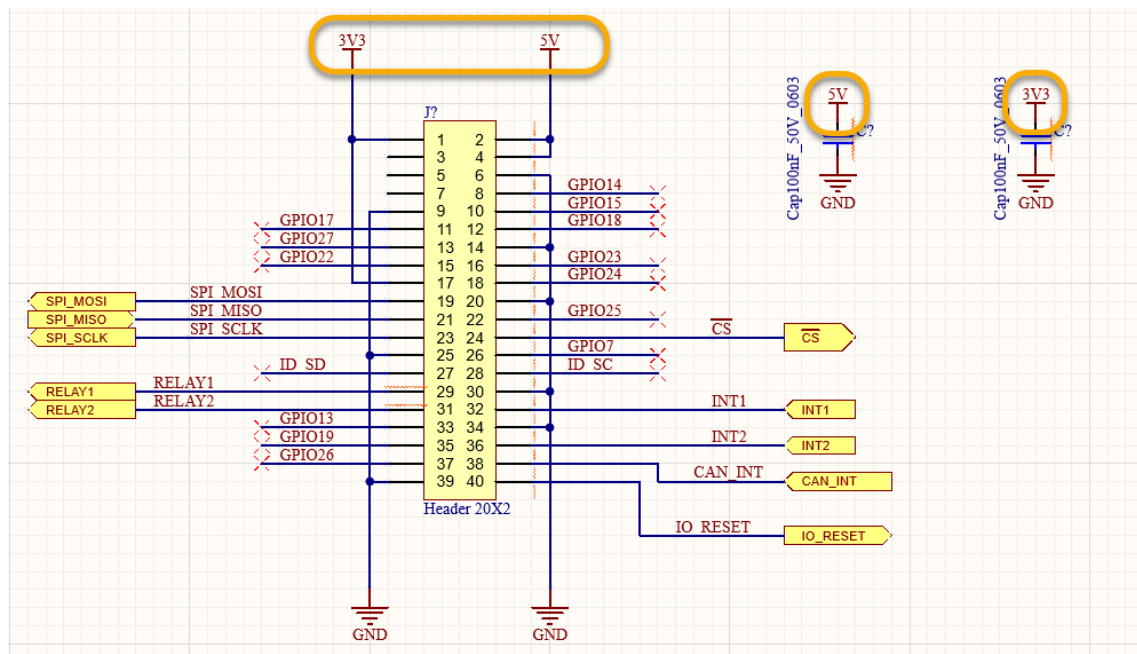

Figure 16. Header J4 with Power Ports
- Repeat the process above and place the Power Port **5V** on the connections on **Pin 2** and **Pin 4**, and the remaining capacitor. When complete, the schematic should look similar to Figure 16.